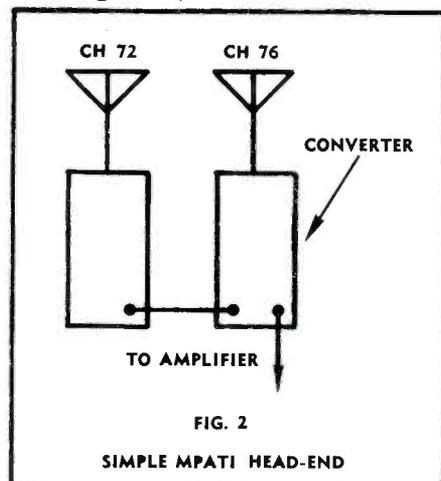
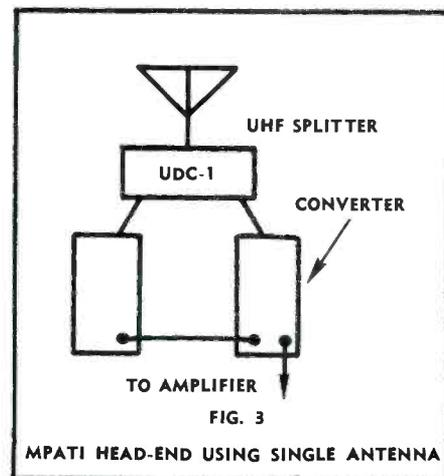

FIG. 2
FIG. 3
"We've discussed the antenna. Remember, though, that there are two MPATI Channels involved, 72 and 76. So you may want to use two separate antennas. In that case, your head-end would look like this (see Figure 2).
"There aren't too many UHF splitters around, but this Blonder-Tongue model UDC-1 will do the job nicely. Then we can have a head-end like this (see Figure 3).
### Method 3 (See Figure 2)
### Method 4 (See Figure 3)
**Method 5 (See Figure 3)**
In methods 2,3,4,5,6, always set AGC level control of MCS# in Figure 1 and MCS# number 2 in Figure 2 and 3, at factory mark or somewhat counter-clockwise. Always leave AGC LEVEL Control of MCS# number 1 in Figure 3 rotated fully clockwise.